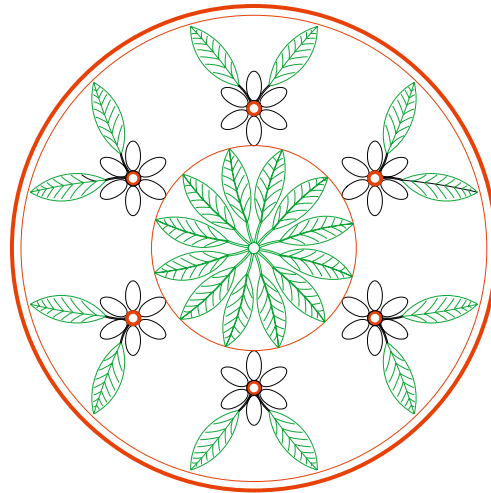

Fig. 10.6 Example – DXF file. Drawing to be saved as a dxf file
1. Open a drawing in AutoCAD. This example is shown in Fig. 10.6.